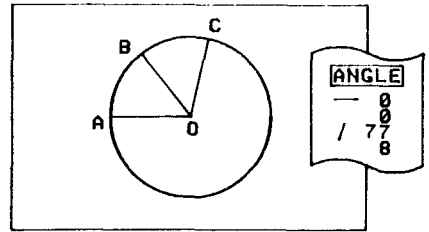

Fig 4
- 10 Draw the radial (OC) as in Fig 4, then switch off ANGLE.